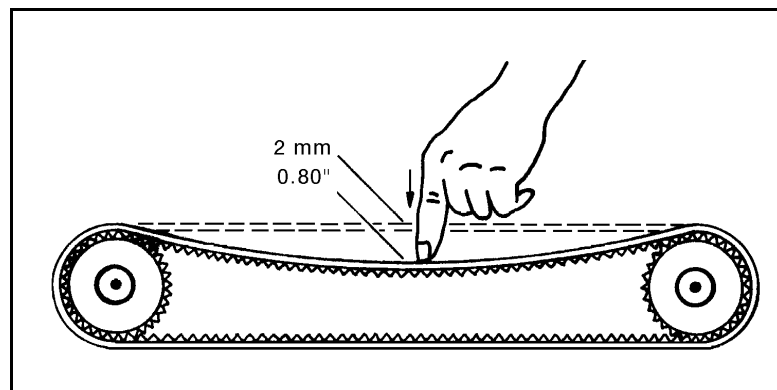

Figure 8-1: Belt Tension
3. Check all the tension of robot arm belts. When you press on a belt, the slack should be no greater than 2mm (0.08"). Refer to Figure 8-1.